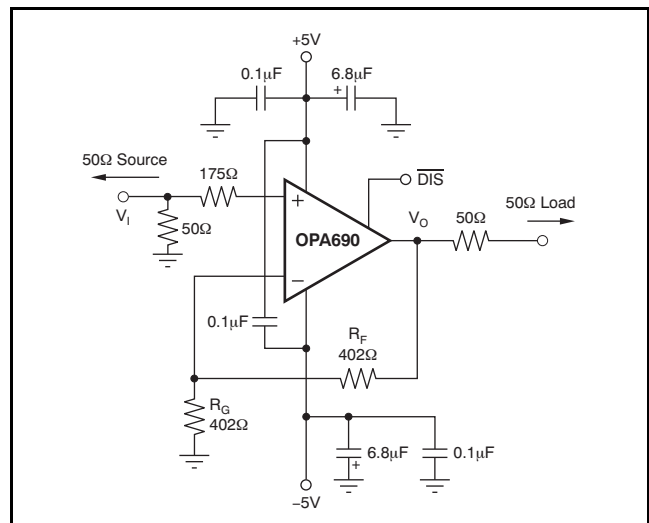
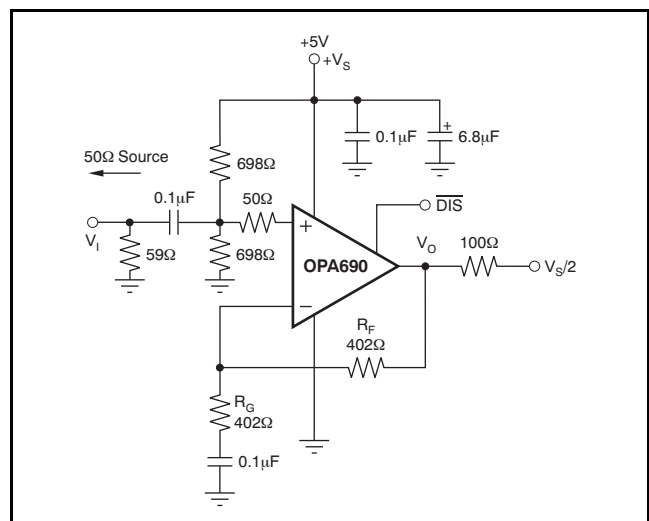
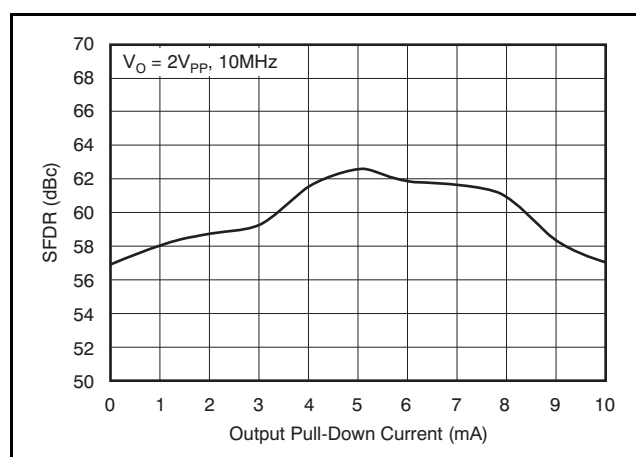
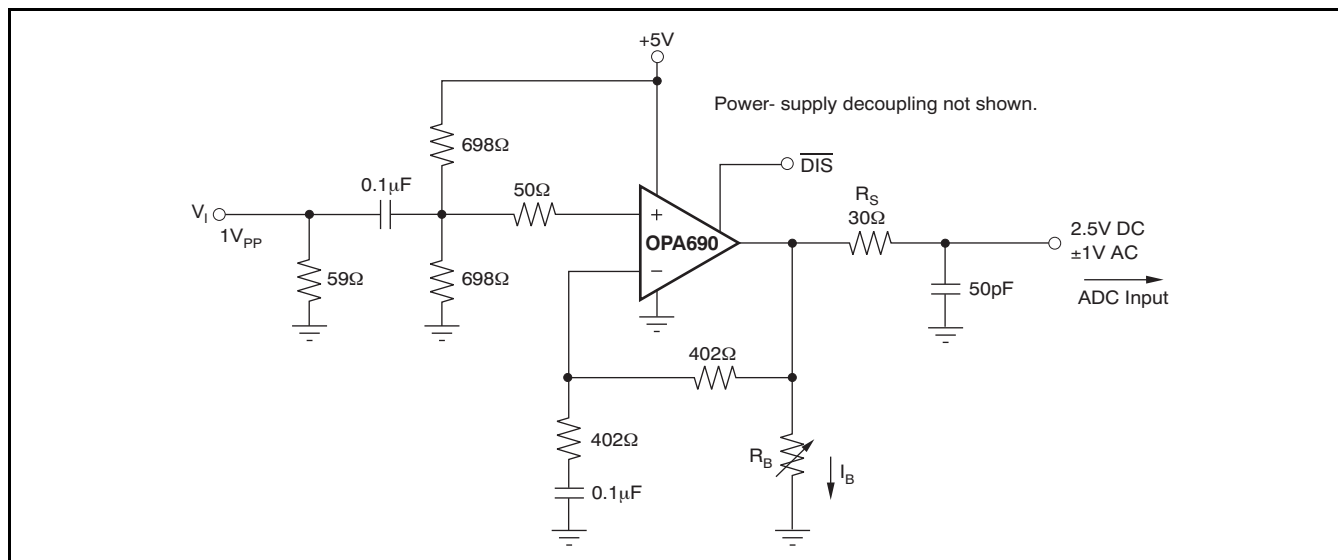

Figure 36. DC-Coupled, G = +2, Bipolar-Supply Specification and Test Circuit
Figure 37. AC-Coupled, G = +2, Single-Supply Specification and Test Circuit
Figure 38. SFDR vs  $I_B$
Figure 39. SFDR versus  $I_B$  Test Circuit
At  $T_A = +25^\circ C$ ,  $G = +2$ ,  $R_F = 402\Omega$ , and  $R_L = 100\Omega$  (see Figure 36 for ac performance only), unless otherwise noted.
At  $T_A = +25^\circ\text{C}$ ,  $G = +2$ ,  $R_F = 402\Omega$ , and  $R_L = 100\Omega$  (see Figure 37 for ac performance only), unless otherwise noted.
Figure 36 shows the dc-coupled, gain of +2, dual power supply circuit configuration used as the basis of the  $\pm 5\text{V}$  *Electrical Characteristics* and *Typical Characteristics*. For test purposes, the input impedance is set to 50 $\Omega$  with a resistor to ground and the output impedance is set to 50 $\Omega$  with a series output resistor. Voltage swings reported in the specifications are taken directly at the input and output pins, while output powers (dBm) are at the matched 50 $\Omega$  load. For the circuit of Figure 36, the total effective load will be 100 $\Omega$  || 804 $\Omega$ . The disable control line is typically left open to ensure normal amplifier operation. Two optional components are included in Figure 36. An additional resistor (175 $\Omega$ ) is included in series with the noninverting input. Combined with the 25 $\Omega$  dc source resistance looking back towards the signal generator, this gives an input bias current cancelling resistance that matches the 200 $\Omega$  source resistance seen at the inverting input (see the *DC Accuracy and Offset Control* section). In addition to the usual power-supply decoupling capacitors to ground, a 0.1 $\mu\text{F}$  capacitor is included between the two power-supply pins. In practical printed circuit board (PCB) layouts, this optional-added capacitor will typically improve the 2nd-harmonic distortion performance by 3dB to 6dB.
Figure 37 shows the ac-coupled, gain of +2, single-supply circuit configuration which is the basis of the +5V *Electrical Characteristics* and *Typical Characteristics*. Though not a rail-to-rail design, the OPA690 requires minimal input and output voltage headroom compared to other very wideband voltage-feedback op amps. It will deliver a 3VPP output swing on a single +5V supply with > 150MHz
bandwidth. The key requirement of broadband single-supply operation is to maintain input and output signal swings within the useable voltage ranges at both the input and the output. The circuit of Figure 37 establishes an input midpoint bias using a simple resistive divider from the +5V supply (two 698 $\Omega$  resistors). The input signal is then ac-coupled into the midpoint voltage bias. The input voltage can swing to within 1.5V of either supply pin, giving a 2VPP input signal range centered between the supply pins. The input impedance matching resistor (59 $\Omega$ ) used for testing is adjusted to give a 50 $\Omega$  input load when the parallel combination of the biasing divider network is included.
Most modern, high performance ADCs (such as the TI ADS8xx and ADS9xx series) operate on a single +5V (or lower) power supply. It has been a considerable challenge for single-supply op amps to deliver a low distortion input signal at the ADC input for signal frequencies exceeding 5MHz. The high slew rate, exceptional output swing, and high linearity of the OPA690 make it an ideal single-supply ADC driver. The circuit on the front page shows one possible (inverting) interface. Figure 39 shows the test circuit of Figure 37 modified for a capacitive (ADC) load and with an optional output pull-down resistor ( $R_B$ ).
The OPA690 in the circuit of Figure 39 provides > 200MHz bandwidth for a  $2V_{PP}$  output swing. Minimal 3rd-harmonic distortion or two-tone, 3rd-order intermodulation distortion will be observed due to the very low crossover distortion in the OPA690 output stage. The limit of output Spurious-Free Dynamic Range (SFDR) will be set by the 2nd-harmonic distortion. Without  $R_B$ , the circuit of Figure 39 measured at 10MHz shows an SFDR of 57dBc. This may be improved by pulling additional dc bias current ( $I_B$ ) out of the output stage through the optional  $R_B$  resistor to ground (the output midpoint is at 2.5V for Figure 39). Adjusting  $I_B$  gives the improvement in SFDR shown in Figure 38. SFDR improvement is achieved for  $I_B$  values up to 5mA, with worse performance for higher values.
Both the input signal and the gain setting resistor are ac-coupled using 0.1µF blocking capacitors (actually giving bandpass response with the low-frequency pole set to 32kHz for the component values shown). As discussed for Figure 37, this allows the midpoint bias formed by the two 1.87kΩ resistors to appear at
A good rule of thumb is to target the parallel combination of  $R_F$  and  $R_G$  (see Figure 36) to be less than approximately 300Ω. The combined impedance  $R_F \parallel R_G$  interacts with the inverting input capacitance, placing an additional pole in the feedback network and thus, a zero in the forward response. Assuming a 2pF total parasitic on the inverting node, holding  $R_F \parallel R_G < 300\Omega$  will keep this pole above 250MHz. By itself, this constraint implies that the feedback resistor  $R_F$  can increase to several kΩ at high gains. This is acceptable as long as the pole formed by  $R_F$  and any parasitic capacitance appearing in parallel is kept out of the frequency range of interest.
Voltage-feedback op amps exhibit decreasing closed-loop bandwidth as the signal gain is increased. In theory, this relationship is described by the Gain Bandwidth Product (GBP) shown in the Electrical Characteristics. Ideally, dividing GBP by the noninverting signal gain (also called the Noise Gain, or NG) will predict the closed-loop bandwidth. In practice, this only holds true when the phase margin approaches 90°, as it does in high gain configurations. At low gains (increased feedback factors), most amplifiers will exhibit a more complex response with lower phase margin. The OPA690 is compensated to give a slightly peaked response in a noninverting gain of 2 (see Figure 36). This results in a typical gain of +2 bandwidth of 220MHz, far exceeding that predicted by dividing the 300MHz GBP by 2. Increasing the gain will cause the phase margin to approach 90° and the bandwidth to more closely approach the predicted value of (GBP/NG). At a gain of +10, the 30MHz bandwidth shown in the Electrical Characteristics agrees with that predicted using the simple formula and the typical GBP of 300MHz.
The frequency response in a gain of +2 may be modified to achieve exceptional flatness simply by increasing the noise gain to 2.5. One way to do this, without affecting the +2 signal gain, is to add an 804Ω resistor across the two inputs in the circuit of Figure 36. A similar technique may be used to reduce peaking in unity-gain (voltage follower) applications. For example, by using a 402Ω feedback resistor along with a 402Ω resistor across the two op amp inputs, the voltage follower response will be similar to the gain of +2 response of Figure 37. Reducing the value of the resistor across the op amp inputs will further limit the frequency response due to increased noise gain.
Since the OPA690 is a general-purpose, wideband voltage-feedback op amp, all of the familiar op amp application circuits are available to the designer. Inverting operation is one of the more common requirements and offers several performance benefits. Figure 43 shows a typical inverting configuration where the I/O impedances and signal gain from Figure 36 are retained in an inverting circuit configuration.
The second major consideration, touched on in the previous paragraph, is that the signal source impedance becomes part of the noise gain equation and influences the bandwidth. For the example in Figure 43, the  $R_M$  value combines in parallel with the external 50Ω source impedance, yielding an effective driving impedance of  $50\Omega \parallel 67\Omega = 28.6\Omega$ . This impedance is added in series with  $R_G$  for calculating the noise gain (NG). The resultant NG is 2.8 for Figure 43, as opposed to only 2 if  $R_M$  could be eliminated as discussed above. The bandwidth will therefore be slightly lower for the gain of  $\pm 2$  circuit of Figure 43 than for the gain of +2 circuit of Figure 36.
The OPA690 provides good distortion performance into a 100 $\Omega$  load on  $\pm 5V$  supplies. Relative to alternative solutions, it provides exceptional performance into lighter loads and/or operating on a single +5V supply. Generally, until the fundamental signal reaches very high frequency or power levels, the 2nd-harmonic dominates the distortion with a negligible 3rd-harmonic component. Focusing then on the 2nd-harmonic, increasing the load impedance improves distortion directly. Remember that the total load includes the feedback network; in the noninverting configuration (see Figure 36), this is sum of  $R_F + R_G$ , while in the inverting configuration it is just  $R_F$ . Also, providing an additional supply-decoupling capacitor (0.1 $\mu F$ ) between the supply pins (for bipolar operation) improves the 2nd-order distortion slightly (3dB to 6dB).
Evaluating these two equations for the OPA690 circuit and component values (see Figure 36) gives a total output spot noise voltage of 12.3nV/√Hz and a total equivalent input spot noise voltage of 6.1nV/√Hz. This is including the noise added by the bias current cancellation resistor (175Ω) on the noninverting input. This total input-referred spot noise voltage is only slightly higher than the 5.5nV/√Hz specification for the op amp voltage noise alone. This will be the case as long as the impedances appearing at each op amp input are limited to the previously recommend maximum value of 300Ω. Keeping both (RF || RG) and the noninverting input source impedance less than 300Ω will satisfy both noise and frequency response flatness considerations. Since the resistor-induced noise is relatively negligible, additional capacitive decoupling across the bias current cancellation resistor (RB) for the inverting op amp configuration of Figure 43 is not required.
The balanced input stage of a wideband voltage-feedback op amp allows good output dc accuracy in a wide variety of applications. The power-supply current trim for the OPA690 gives even tighter control than comparable amplifiers. Although the high-speed input stage does require relatively high input bias current (typically ±8μA at each input terminal), the close matching between them may be used to reduce the output dc error caused by this current. The total output offset voltage may be considerably reduced by matching the dc source resistances appearing at the two inputs. This reduces the output dc error due to the input bias currents to the offset current times the feedback resistor. Evaluating the configuration of Figure 36, and using worst-case +25°C input offset voltage and current specifications, gives a worst-case output offset voltage equal to:
One key parameter in disable operation is the output glitch when switching in and out of the disabled mode. Figure 49 shows these glitches for the circuit of Figure 36 with the input signal at 0V. The glitch waveform at the output pin is plotted along with the  $\overline{DIS}$  pin voltage.